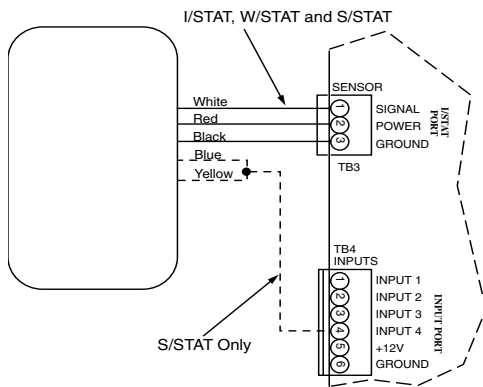

Figure 5. I/STAT and S/STAT Connection
1. Connect the I/STAT, S/STAT, or W/STAT white, red, and black conductors to TB3 – 1 through TB3 – 3 (Signal, Power, and Ground) as shown in Figure 5.